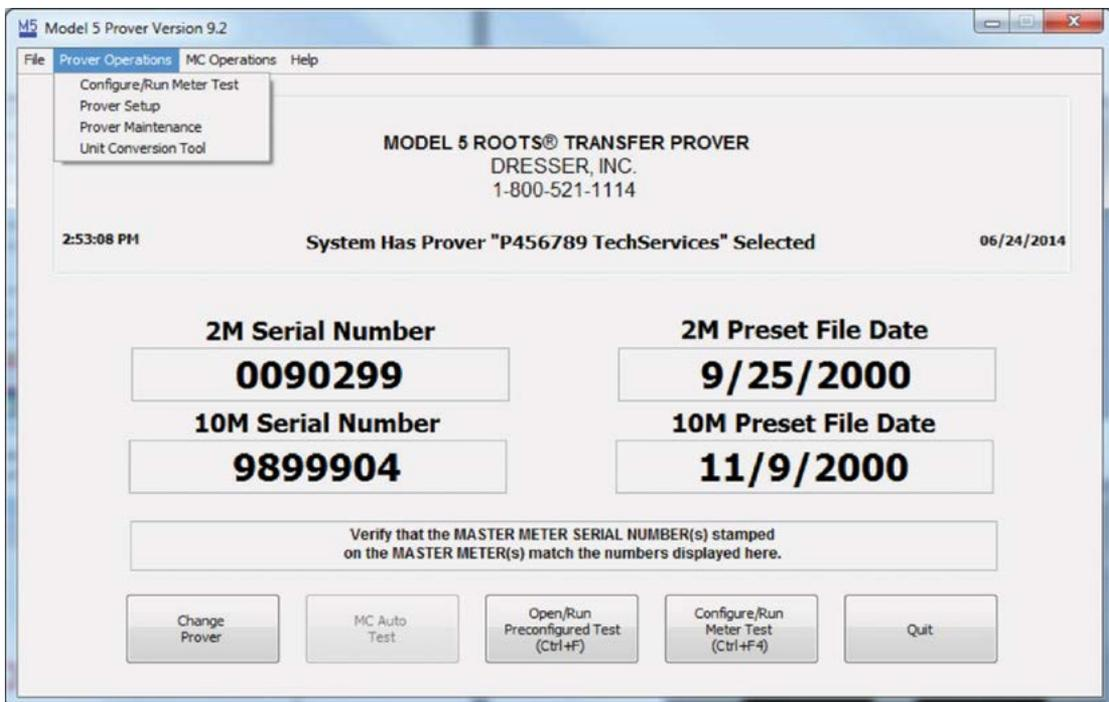

Figure 54: 9.1 Main Screen
5. From the main screen of the Model 5 Prover Software select "Prover Operations" as shown in **Figure 54**.